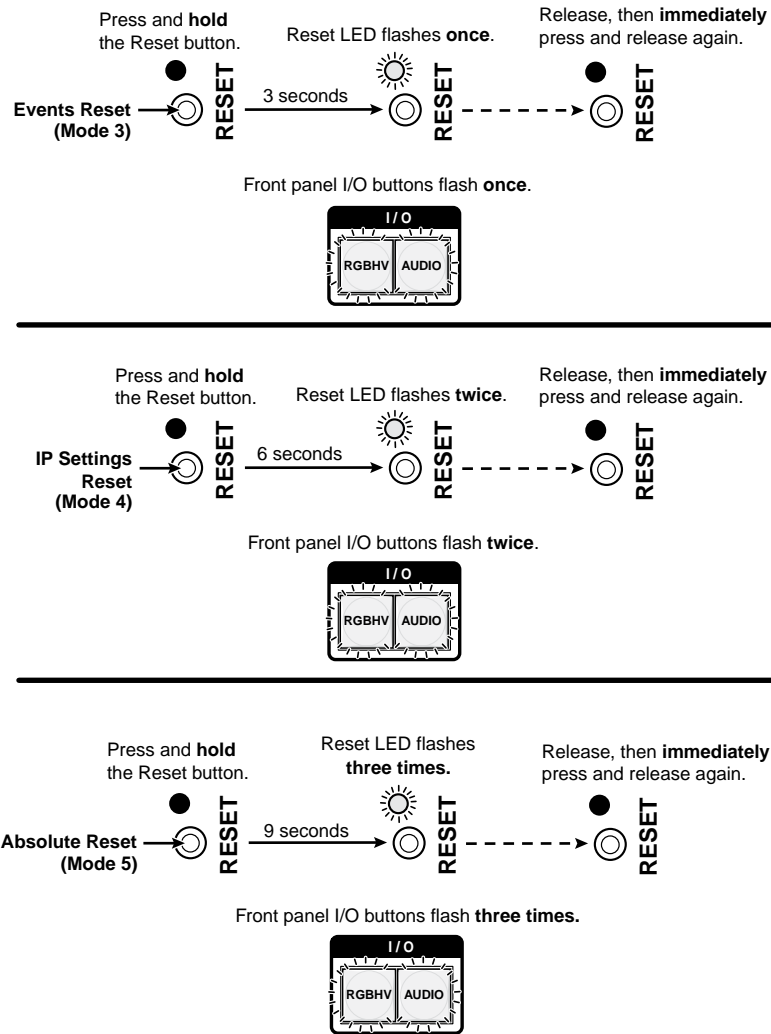

Figure 55. Soft System Resets
1. Use a small screwdriver to press and **hold** the rear panel Reset button until the Reset LED and the front panel Video and Audio buttons blink the number of times for the desired reset: once (events reset), twice (system reset), or three times (absolute reset) (see figure 55).